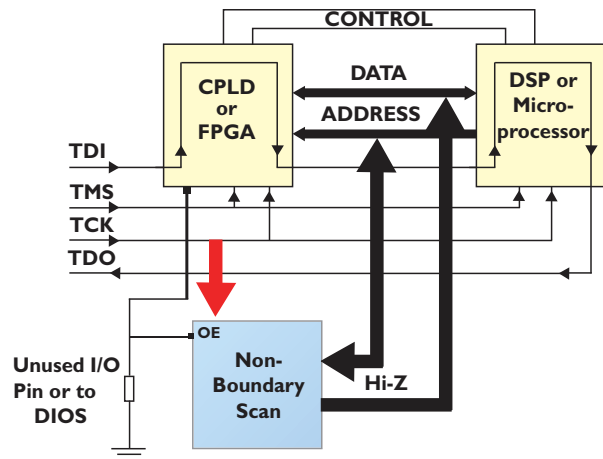

Figure 3. Unused I/O Pin Controls Non-Boundary Scan Devices
a data bus with a noncompliant transceiver (**Figure 3**). If during testing the transceiver's output-enable (OE) signal floats (see red arrow), the transceiver's bus signals could conflict with those produced by the scan chain to test the FPGA-to-processor connections.